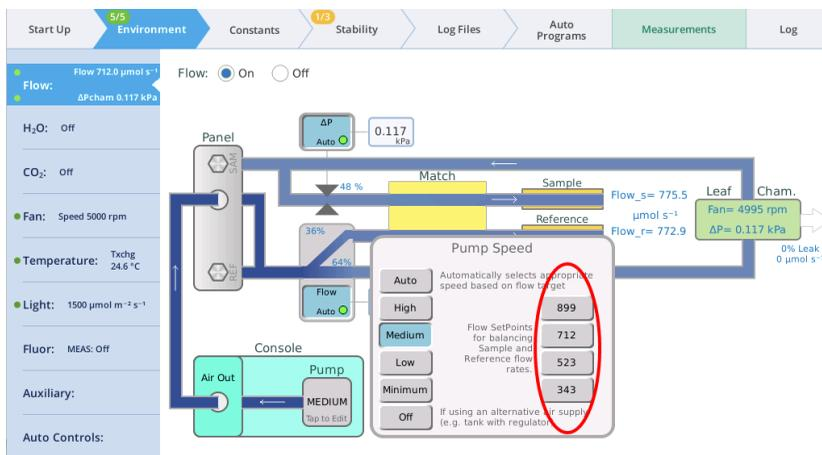
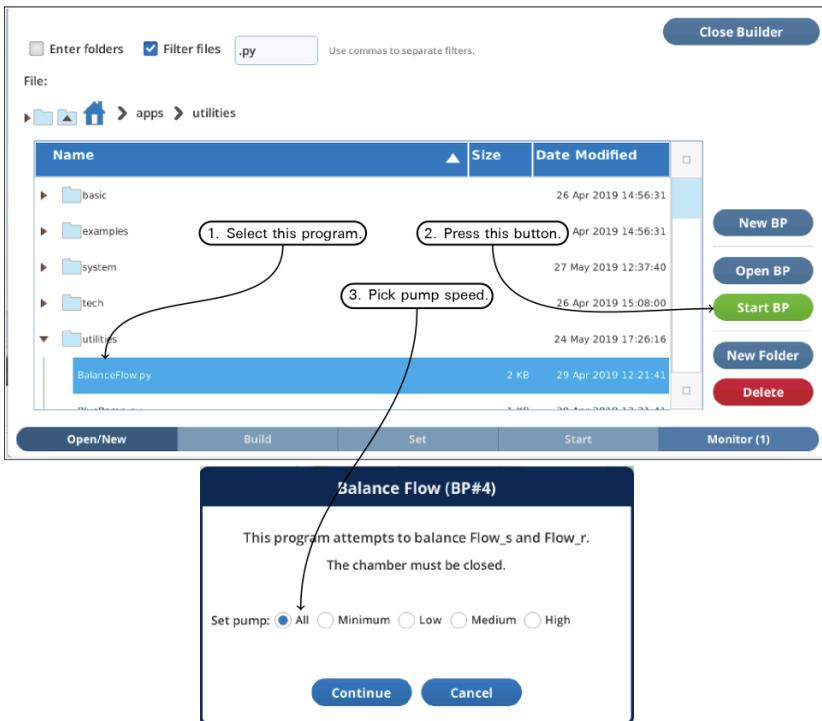

Figure 1-51. *Balanced flow.*
Figure 1-52. The BalanceFlow utility program can be run manually to determine (and automatically update) balanced flow set points.
Having sample and reference flow rates balanced can be advantageous for eliminating potential errors, and it is now easier to achieve. For every pump speed, there is one flow rate that will match sample and reference flows (to within 5 mol s^{-1}). To quickly get to that flow rate, simply tap the **Pump** button on the **Flow** control page to bring up the **Pump Speed** dialog (Figure 1-51 below). Tap one of the four flow rate possibilities presented on the right side.
- The BP /home/utility/apps/utilities/Balance_Flow.py has an opening dialog that lets you pick what pump speed to use (Figure 1-52 below), then balances the flow for that speed. (Cycling through all four pump speeds is also an option.) Running this program also updates the balanced flow setpoints shown in Figure 1-51 on the previous page.